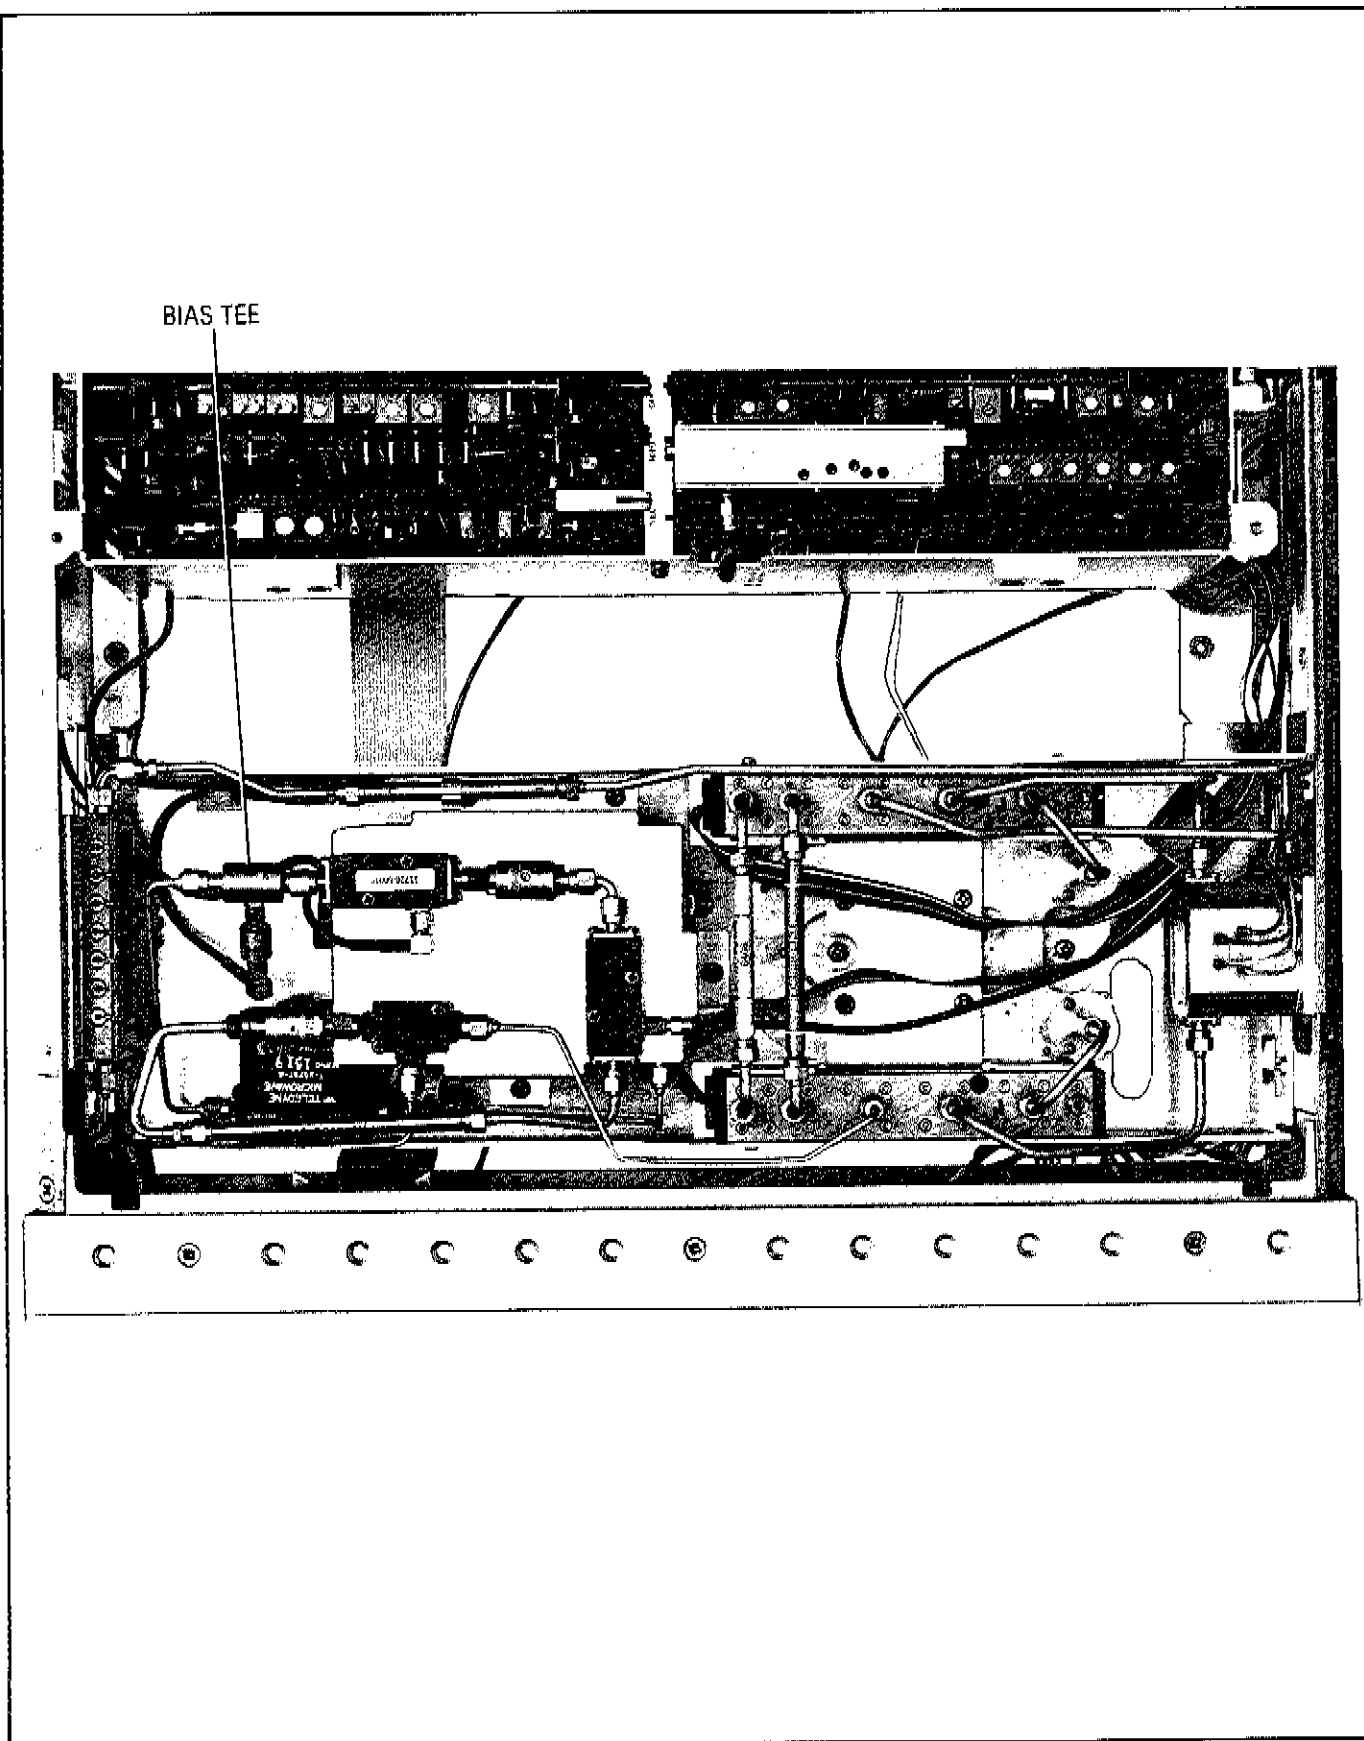

Figure 8-61. Bias Tee
44. Set both LINE switches to OFF then remove the bias tee A1CP1 (See Figure 8-61). Using the DVM, measure the resistance between: